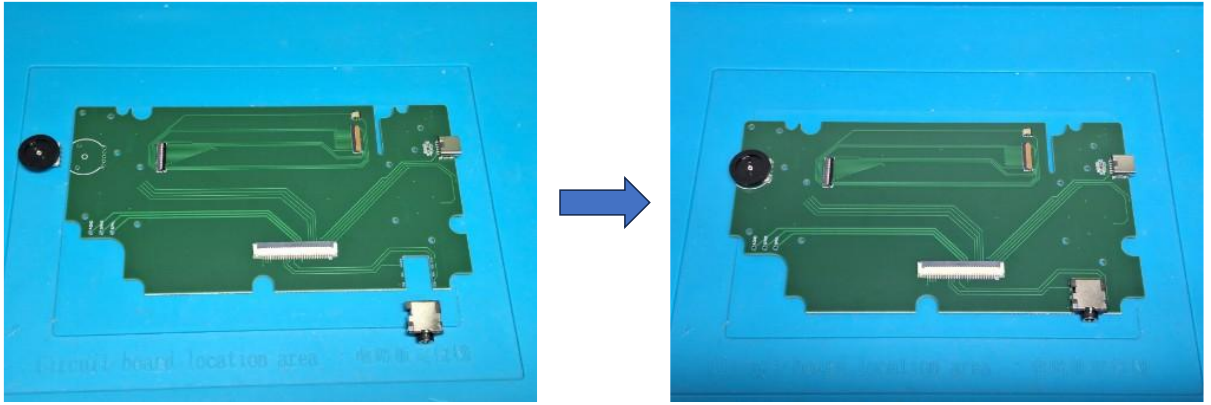

Figure 9: Volume wheel and headphone jack soldering
1. Solder the headphone jack and volume wheel to the button PCB as shown in Figure 9. Ensure that the components are soldered to the correct side of the PCB.